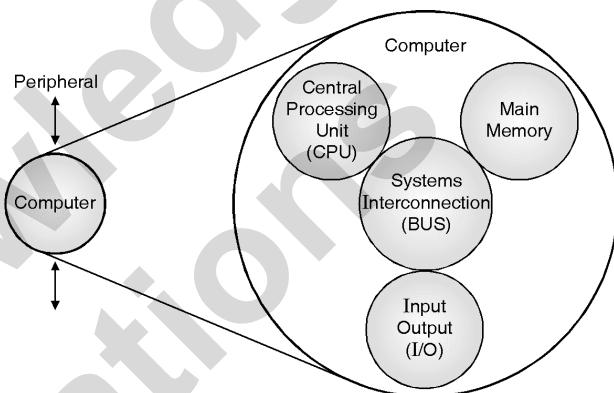

Fig. 9.2.1 : Structure of a computer
- It is the way in which components related to each other. Fig. 9.2.1 shows the structure of a digital computer.